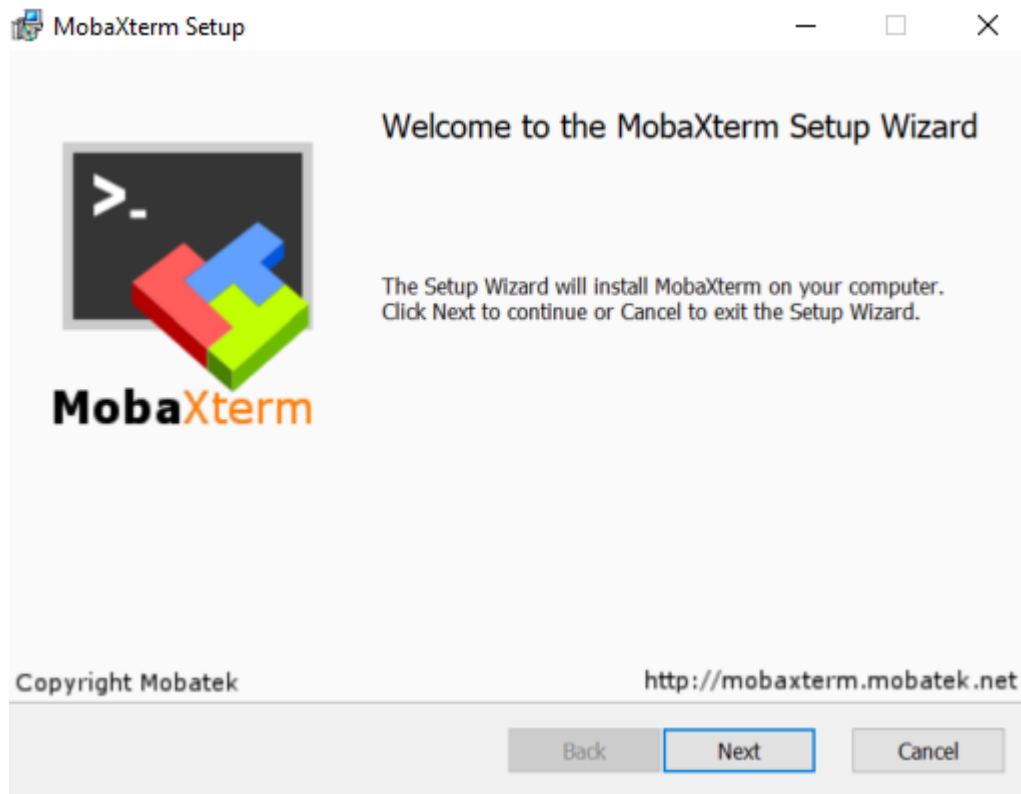

Figure 2-5 MobaXterm Installation Window
6. The installation window will pop up, click "Next" as shown in **Figure 2-5**.